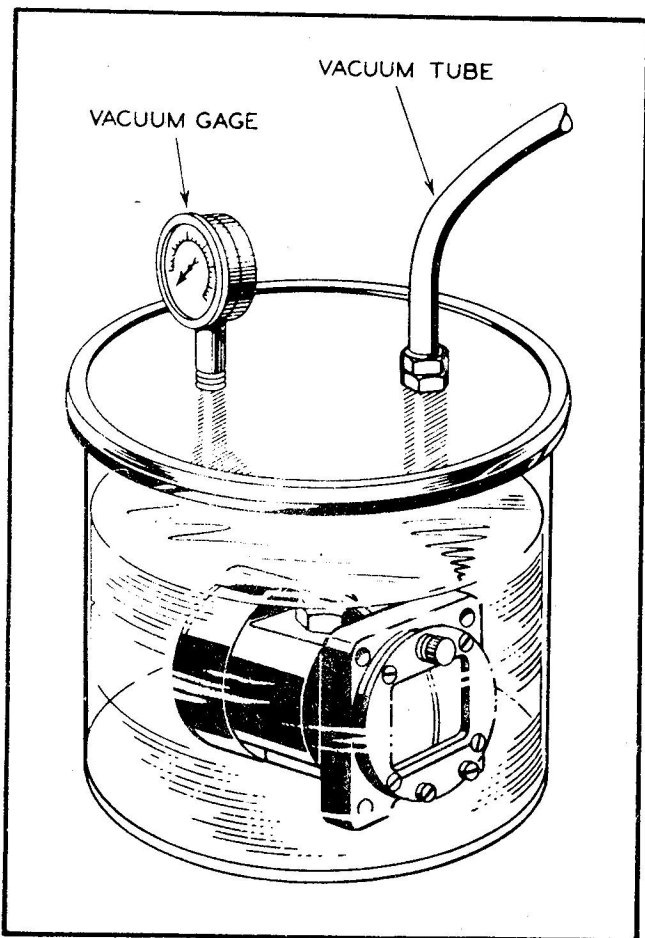

Figure 2-9. Evacuating Container
n. Place the expansion unit gasket (22) on the expansion unit (20) and rotate it until all screw holes in the gasket are in alignment with the screw holes in the expansion unit assembly.
o. Place the case (35) on a flat surface, mounting face downward, and carefully position the expansion unit assembly (20) on the case. Make certain that the screw holes for attaching the connector and contact assembly (2) are in correct position. Install the four bolts (21) and tighten progressively. Place the compensator housing (11) in position on the bottom of the case (35) and install the two bolts (13) at the front end and one bolt (12) at the rear.
p. Remove the filler cap (15) from the case (35) and insert the compass into a container prepared for filling the compass by means of evacuation. The container should be fitted with an air tight lid so that a vacuum line and gage can be attached to the lid in order to evacuate all air from the compass when filling it with fluid. (See figure 2-9.) The size of the container should not be any larger than necessary to accommodate the compass in an upright position and to permit hand room for installing the filler cap, while the compass is immersed in the fluid.
q. Holding the compass in the evacuating container, fill the compass with fluid and remove all air bubbles by rotating it end to end and side to side several times. Add fluid to the container until it is approximately 1/2-inch above the top of the compass. (See figure 2-9.) Place the rubber gasket under the flat lid and close the container. Connect the tube in the lid to a vacuum pump and evacuate to 28-29 inches Hg as shown on the vacuum gage which is also attached to the lid. Continue the evacuating process for a minimum of three hours in order to remove all traces of air from the compass assembly.
r. After the evacuating process has been completed, immerse the filler cap (15), with the card retainer assembly (17) and gasket (18) in place, with the retainer assembly facing upward. While the assembly is immersed in the fluid, work the retainer into the filler opening. Screw the cap down as tight as possible with the fingers.